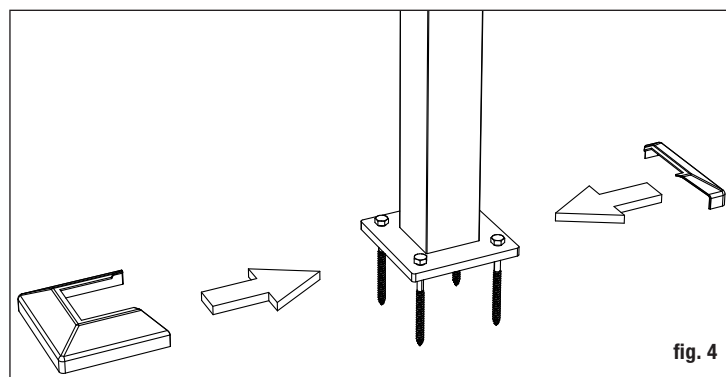

fig. 4
Step 4: Finish by sliding a post base trim (optional) over each post for a finished look (fig. 4).